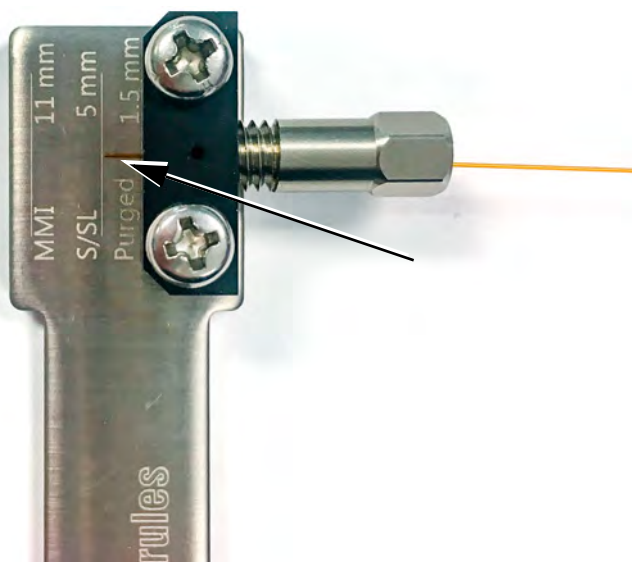

Figure 15. Align column (split/splitless shown)
- 5 Adjust the column position in the tool until the column end aligns with the correct dimension for the inlet. See Figure 15.